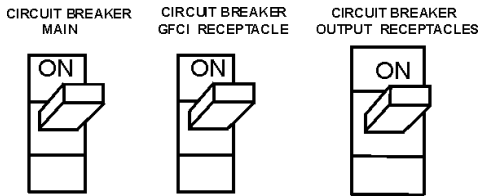

Figure 60. Main and GFCI Circuit Breakers
- If there are no abnormal problems shown on the "MPEC" LED display, turn the MAIN, GFCI and LOAD circuit breakers to their ON position (Figure 60).